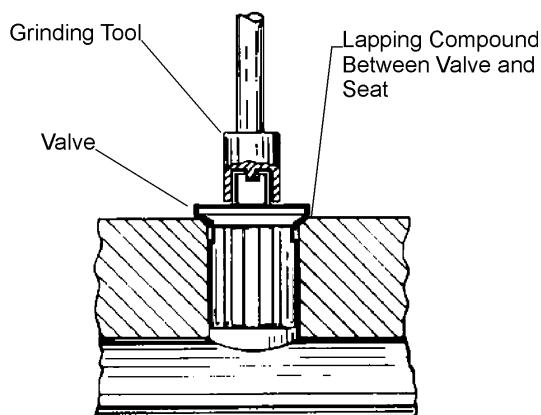

Figure 39 Lapping Compound
To properly lap the valves, the block can be removed or remain installed. A valve grinding tool is available for lapping valves. See Figure 39. One end fits over the top of the valve.
2. Apply valve compound (supplied with tool) to face of valve. See Figure 39
3. Place the valve back into the seat. See Figure 39